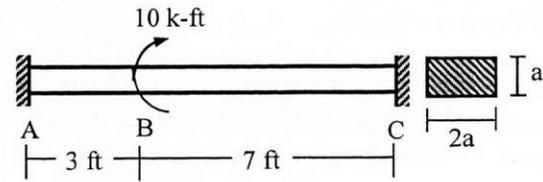

Figure 2
2. Calculate the required dimension 'a' of the rectangular rod ABC shown in the **Figure 2** if allowable shear stress is 20 ksi. For the dimension 'a', calculate the maximum angle of twist in the rod [$G = 12000 \text{ ksi}$].